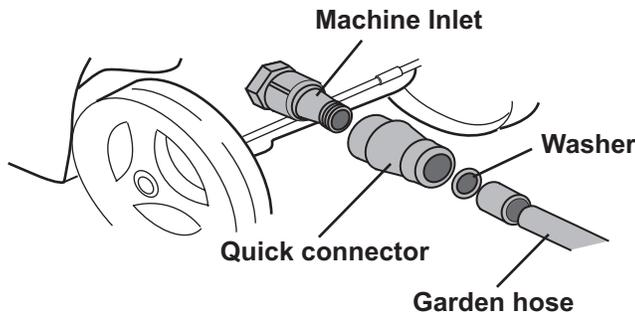

Fig. 2
- 10 **Garden hose inlet nipple with quick connector (not shown. See page 8, figure 2)**
Water Connection (See Figure 2)
Before connecting run water through the garden hose (not supplied) to flush out any foreign matter. Attach garden hose to the pressure water inlet connection. (Fig.2)